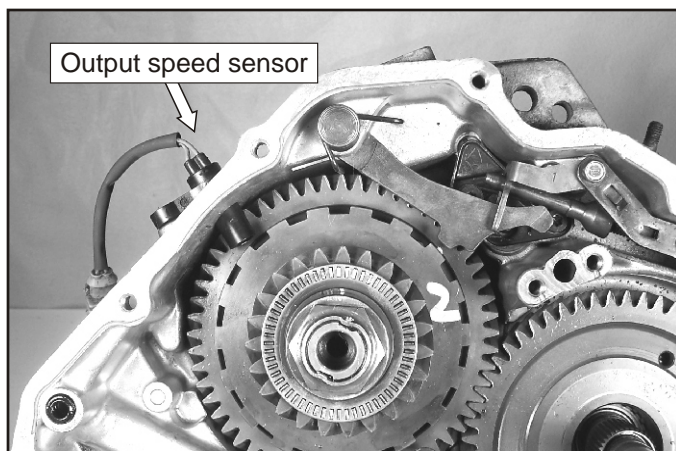

Figure 51
11. Remove the 27 torx headed output shaft speed sensor bolt and remove the sensor as shown in Figure 51. *Note: The bolt length is 13mm long.*